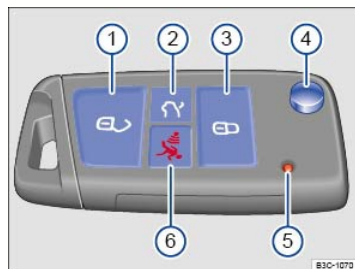
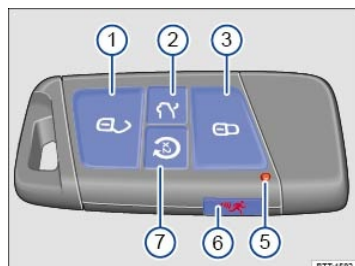

Fig. 47 Remote control vehicle key with panic button (vehicles without Remote Start).
Fig. 48 Remote control vehicle key with panic button (vehicles with Remote Start).
Key to ⇒ Fig. 47 and ⇒ Fig. 48 :
Depending on equipment, pressing the  button ⇒ Fig. 48⑦ two times after pressing the  button ⇒ Fig. 48③ activates the remote start feature if certain requirements are met ⇒ Remote start feature.